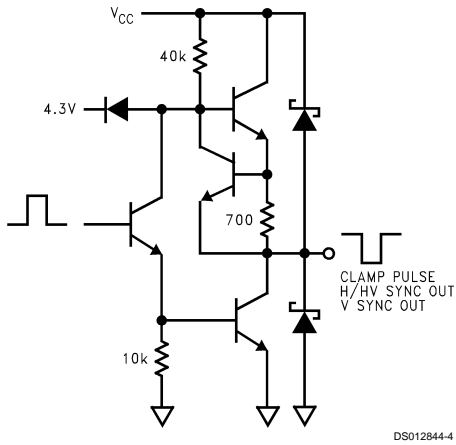

FIGURE 4.
See Figure 4 through Figure 14 for input and output schematics.
**Pin 3 — CLAMP PULSE:** Active-low clamp pulse output. See Figure 4 for the output schematic.
**Pin 10 — H/HV SYNC OUT:** The sync processor outputs active-low H/HV sync derived from the active sync input (pin 9 or pin 12). Pin 10 stays low in the absence of sync input. See Figure 4 for the output schematic.
**Pin 16—V SYNC OUT:** The sync processor outputs active-low V sync derived from the active sync input (pin 8, pin 9 or pin 12). Pin 16 stays low in the absence of sync input. See *Figure 4* for the output schematic.